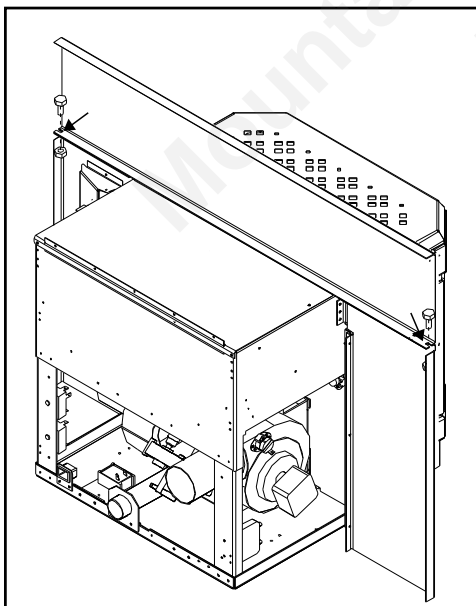

Figure 36: Assembling the Surround Panel, back view.
6. Insert each side panel anchor bolt through the top panel into the corresponding side panel holes and tighten using a $7/16$ " wench or socket (refer to Figure 36).